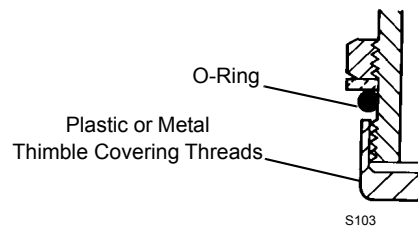

FIGURE 2-3
- Be careful not to cut O-rings when assembling them to fittings. Use thimble as shown in Figure 2-3 when assembling O-ring over threads.